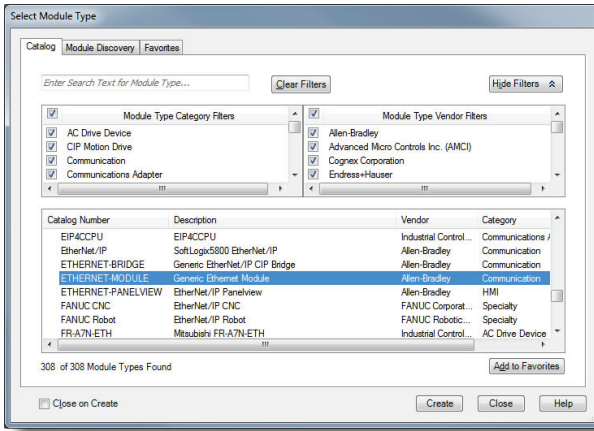

Figure 52: Adding a New Generic Ethernet Module
- 3) Choose "Generic Ethernet Module" in the Select Module dialog box and click "Create". Refer to Figure 52.